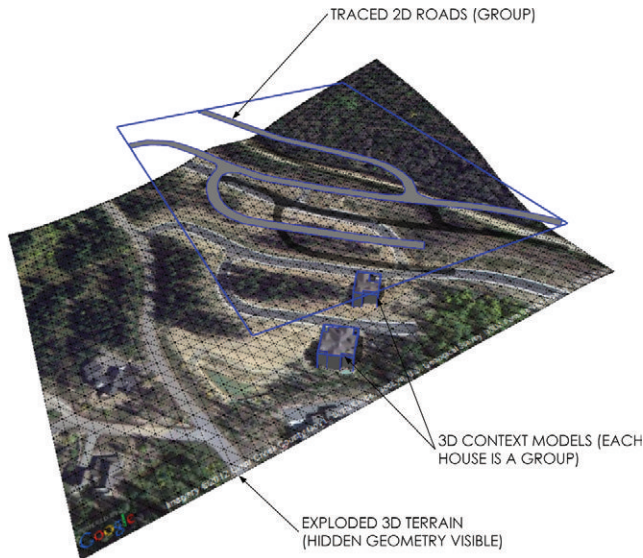

Figure 15.9 The final traced plan floating above the terrain
- ☑ Trace the house footprints and extrude them into 3D. Make each house a group (Figure 15.9).